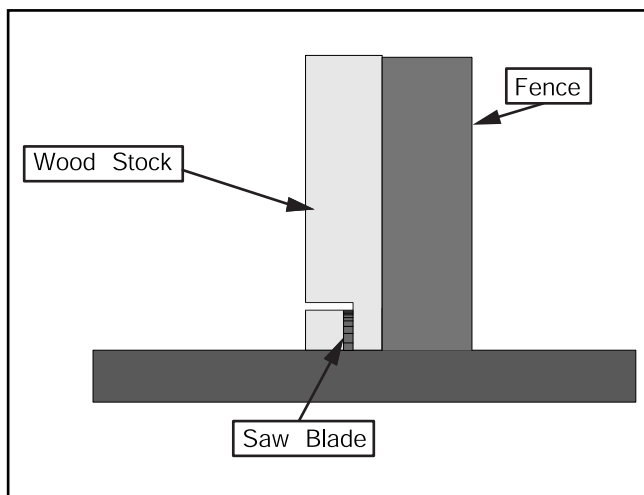

Figure 38. Rabbet cutting.
7. Rotate the workpiece as shown in **Figure 38**.